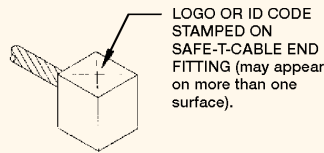

FIGURE 10: Safe-T-Cable® Identification Stamp
1.5. Safe-T-Cable® identification stamp. In applications where the user requires a logo or ID code to be a permanent part of the Safe-T-Cable® installation (for warranty or traceability), it shall be applied by the Safe-T-Cable® manufacturer to one or more surfaces of the square end fitting of the Safe-T-Cable®. Only impression stamping is permitted, no paint, ink, or labels are acceptable (Figure 10).